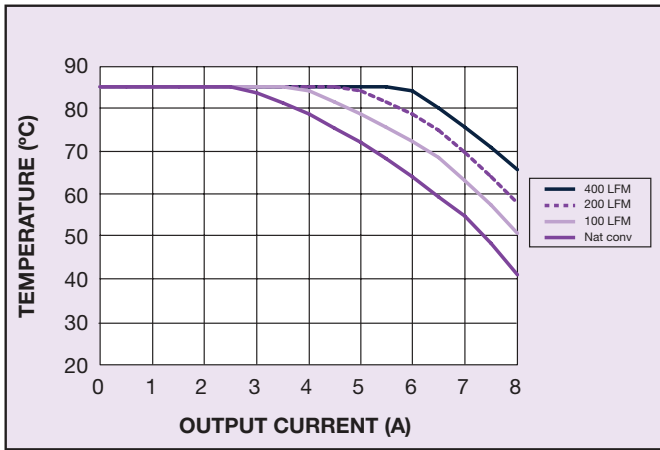

Figure 1 - Safe Operating Area
- 2 See Figures 1, 2, 3 and 6 for safe operating curves.